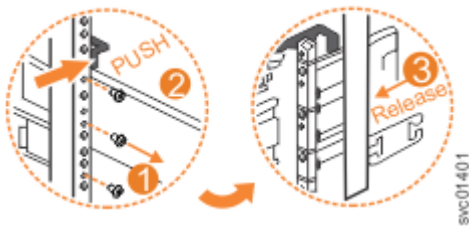

Figure 133. Remove the rail assembly from the rear frame bracket
3. Remove the two screws that attach the inner rail section to the rear bracket, as shown in Figure 133 on page 114.
4. Pull the rail forward, away from the rear bracket, as shown in Figure 133 on page 114.